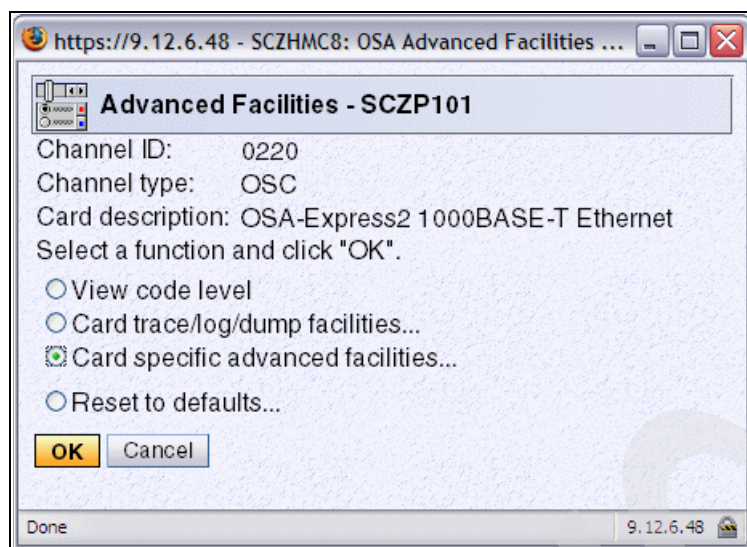

Figure 3-39 HMC - OSA Advanced Facilities (Card specific)
5. Select the radio button **Card specific advanced facilities...** and click **OK** (Figure 3-39).